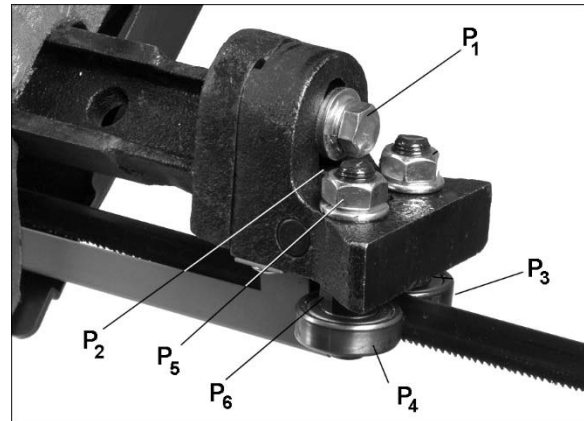

Figure 7-7
2. Loosen bolt (P₁, Figure 7-7) and adjust assembly so that rear bearing (P₂) is slightly set back from back edge of blade. Also, inside bearing (P₃) should very lightly contact blade. Tighten bolt (P₁).